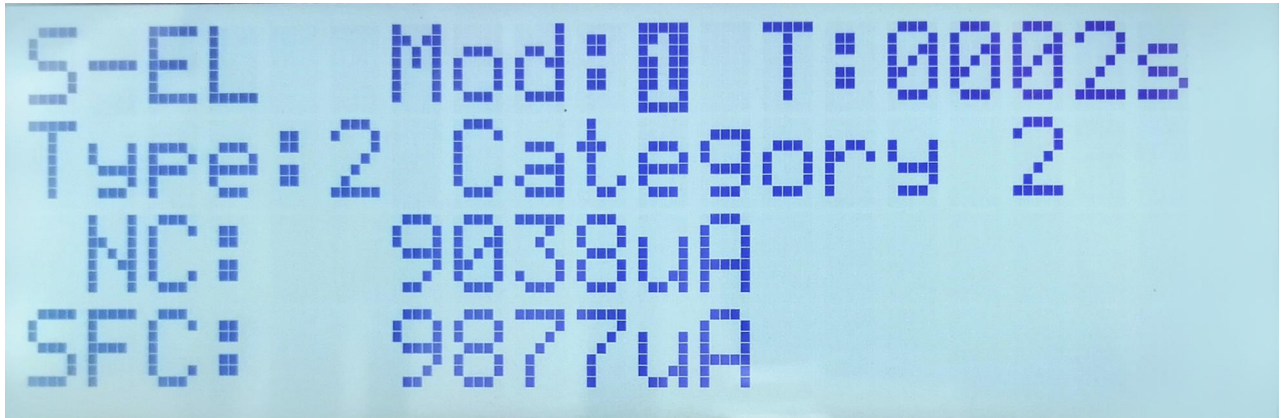
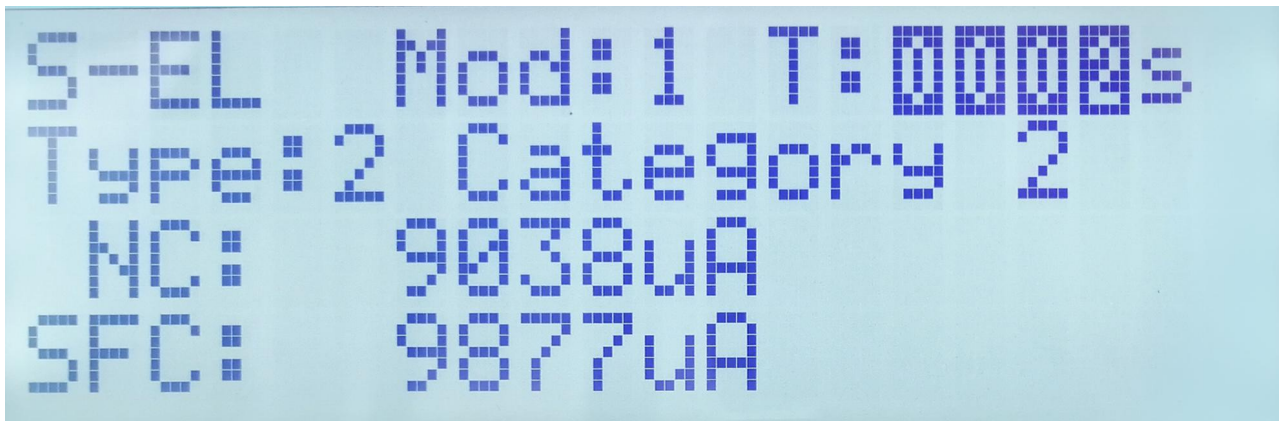

图 5 Figure 5
图 6 Figure 6
1、按任意键后，按“SET”进入设置页面，起始如图 5 显示，按“SET”移动光标，可依次选中须设置各项如图 6、7、8、9 所示，各项按“↑”“↓”键则改变其中数据，按“ENT”则保持设置并保存。Press any key, then press "SET" to enter the settings page. The initial screen is shown in Figure 5. Press "SET" to move the cursor, allowing selection of each parameter to set, as shown in Figures 6, 7, 8, and 9. Use the "↑" and "↓" keys to change the values, and press "ENT" to save the settings.